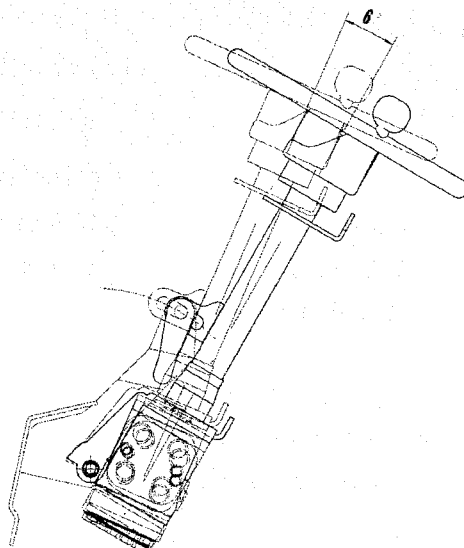

Fig 5-1
(1) Fully Hydraulic Steering Gear Assembly (Fig 5-1)